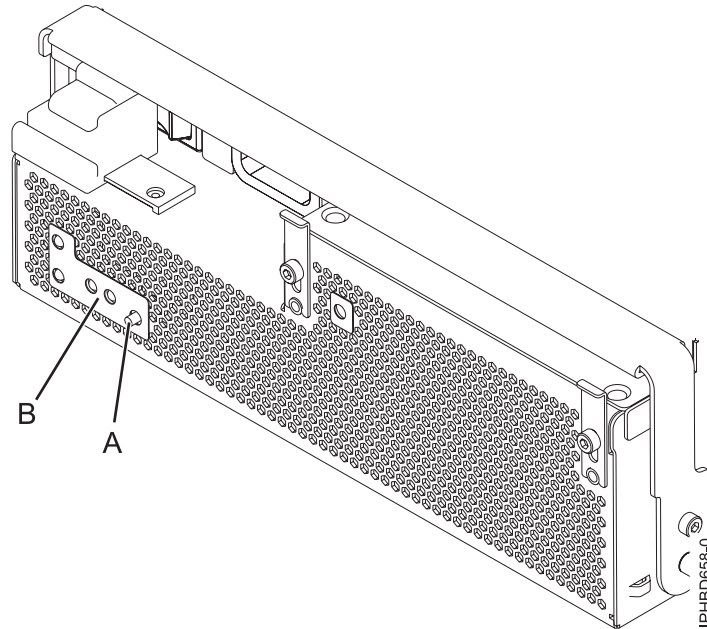

Figure 27. Fan fault LED
Note: If you replaced a power-supply fan as part of this procedure, note the state of the fan fault LED (B) as shown in Figure 27 on page 25. If the LED is off, indicating that both fans are operating